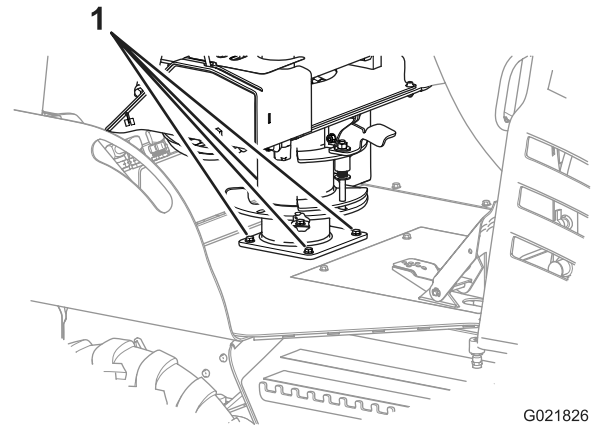

Figure 98
2. Check that the 4 bolts that secure the seat to the chassis of the machine are torqued to 5.4 to 6.8 N-m (48 to 60 in-lb); refer to Figure 98.